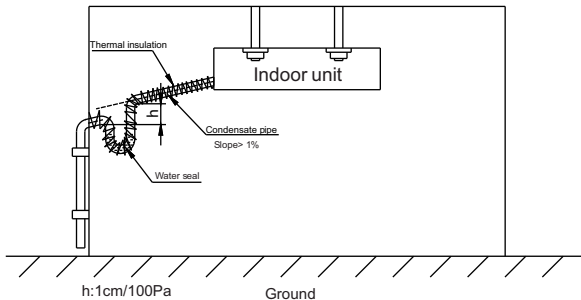

Fig 18
- 4) After condensate pipe installation, irrigation leak test must be performed. Confirm no water leakage in various joints and smooth drainage. The installation can be performed with reference to figure 18: